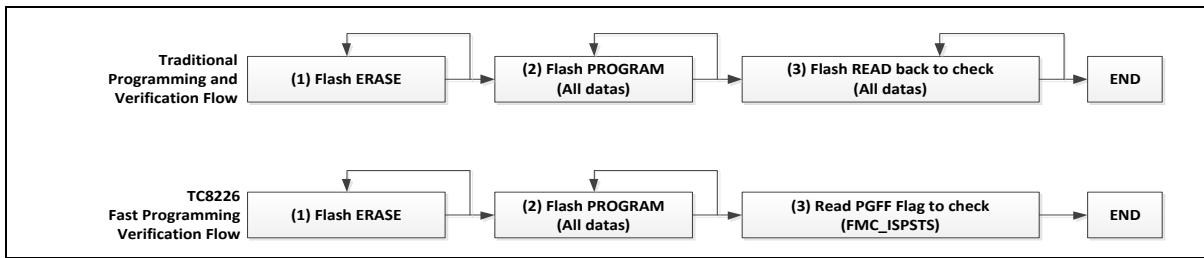

Figure 6.4-20 Verification Flow
In traditional Flash updated operation, the Flash memory has to perform three steps to complete the Flash memory updated procedure, (1) Flash ERASE (2) Flash PROGRAM (3) Flash READ back all of data to check the correction. In the M480 series, it only reads FMC_ISPSTS to check PGFF flag in Step (3) without reading data back to confirm. Figure 6.4-20 compares traditional programming verification flow and fast programming verification flow.